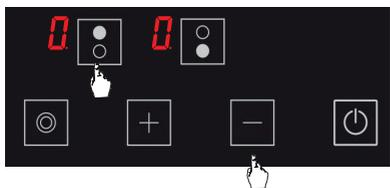

Figure 14
1. Press upper hob selection key (⏻) and minus key (⏪) simultaneously, you shall hear a short warning signal at this time. (see Fig. 14) Then, remove your fingers from the stove control panel.